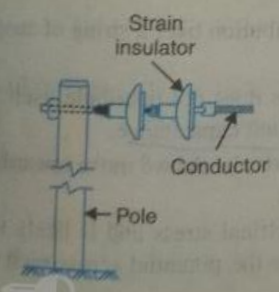

Fig. 8.8. Strain insulator.
**3. Strain insulators.** When there is a dead end of the line or there is corner or sharp curve, the line is subjected to greater tension. In order to relieve the line of excessive tension, strain insulators are used. For low voltage lines (< 11 kV), shackle insulators are used as strain insulators. However, for high voltage transmission lines, strain insulator consists of an assembly of suspension insulators as shown in Fig. 8.8. The discs of strain insulators are used in the vertical plane. When the tension in lines is exceedingly high, as at long river spans, two or more strings are used in parallel.